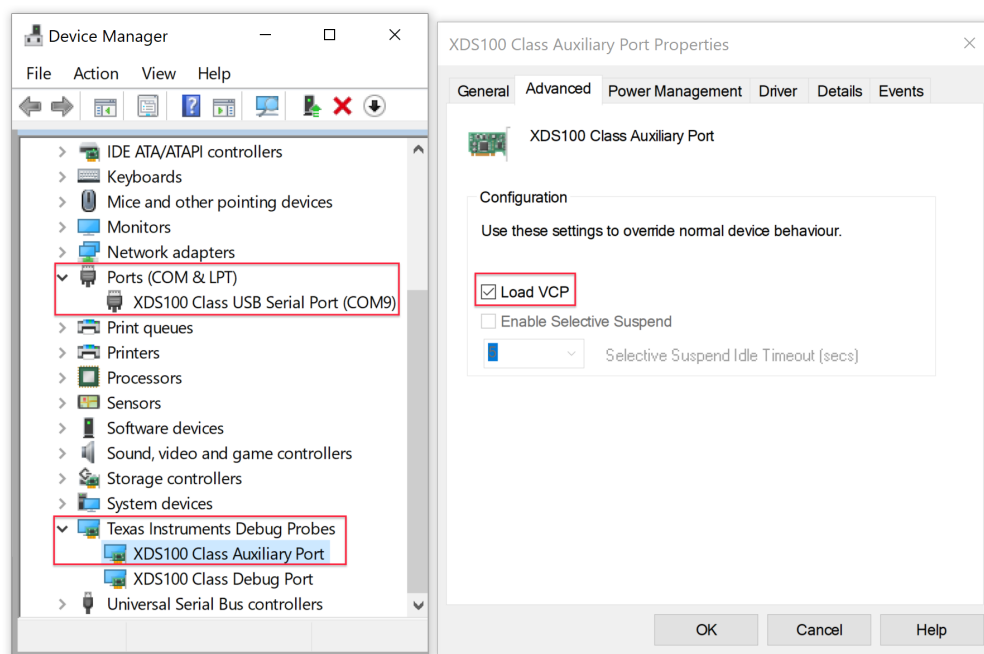

Figure 1.2: Configuring Load VCP
- 1 If you're using the Windows operating system, open the **Device Manager** and verify that the "Load VCP" port of the "XDS100 Class Auxiliary Port" under "Texas Instruments Debug Probes" is enabled (unplug the MCU from the computer and replug if necessary). If configured correctly, the appropriate auxiliary port should show up under "Ports", as shown in Figure 1.2.